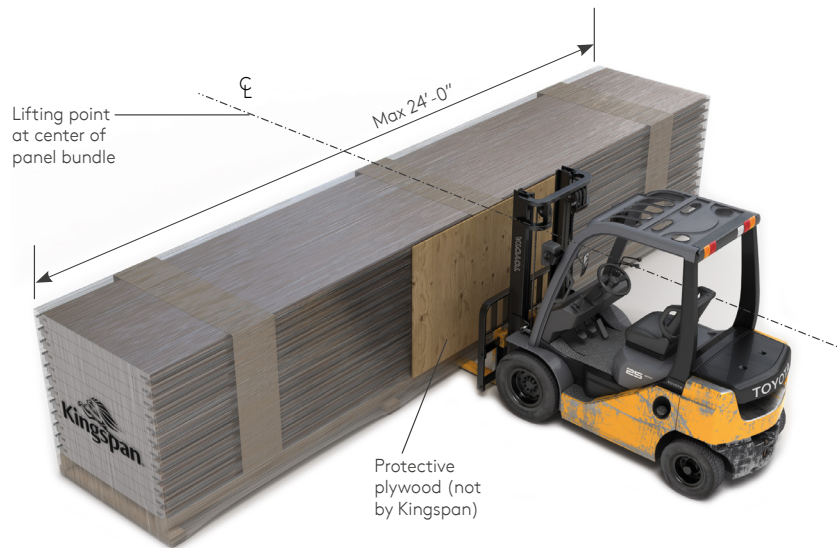

Fig. 4.1a
4.1.1 The recommended loading/unloading method for bundles less than or equal to 24' is to use a single forklift with widely spaced forks placed under the center of the bundle as shown in Figure 4.1a. Inspect travel route to ensure it is reasonably level, compacted and free of ruts and excavations.